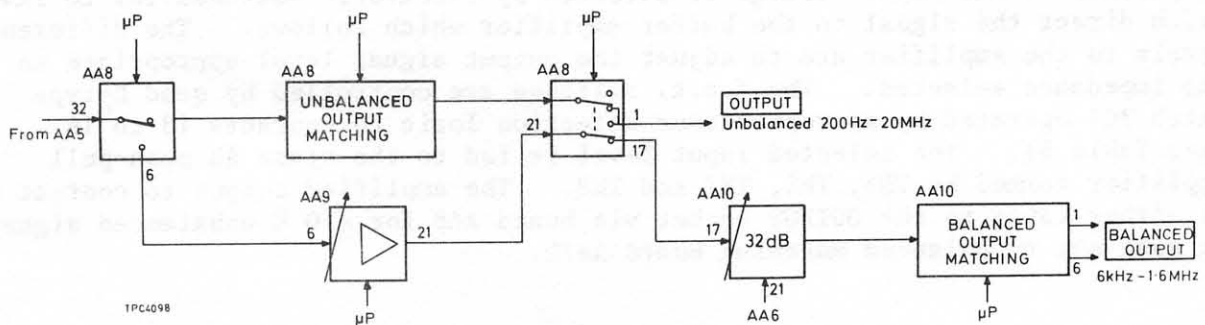

Fig. 13 Impedance matching and output
47. When an unbalanced output is selected on the impedance switch the signal from the programmable attenuators is matched on board AA8 and then fed either via board AA9 buffer for 0 Ω or directly for 50 Ω , 60 Ω or 75 Ω , to the OUTPUT socket (see Fig. 13). When a balanced output is selected the signal is taken to AA9 buffer amplifier then matched on board AA10 before being fed to the BALANCED OUTPUT socket. The 32 dB balanced output attenuator on AA10 follows the buffer amplifier in order to ensure a good signal to noise ratio for low output levels.